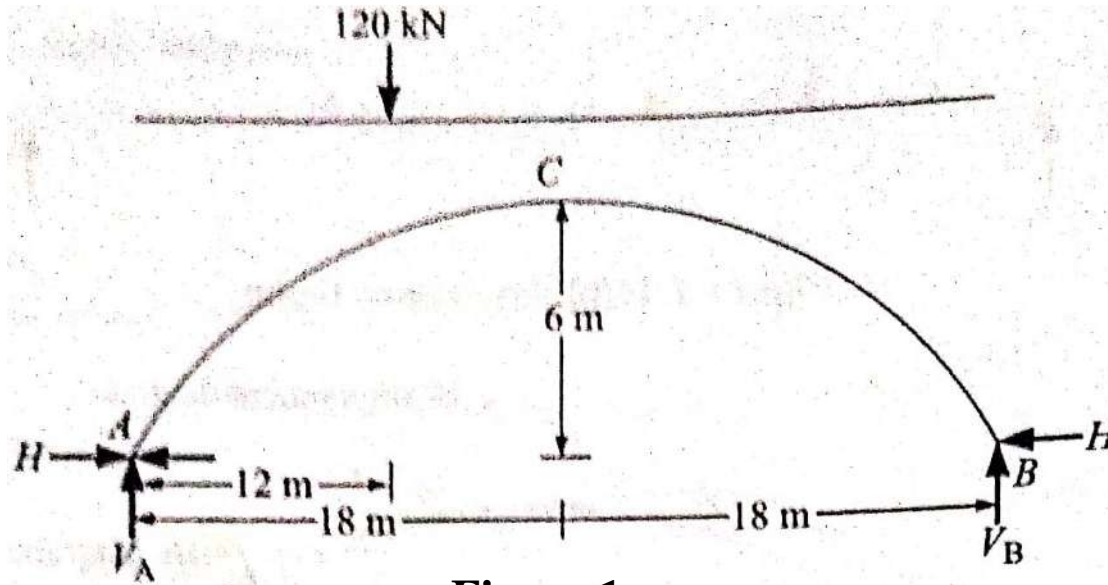

Figure 1
- The arch is shown in Figure 1.